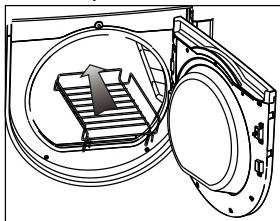

Fig.2
- Lift the dryer rack horizontally into the drum.(Fig.2)